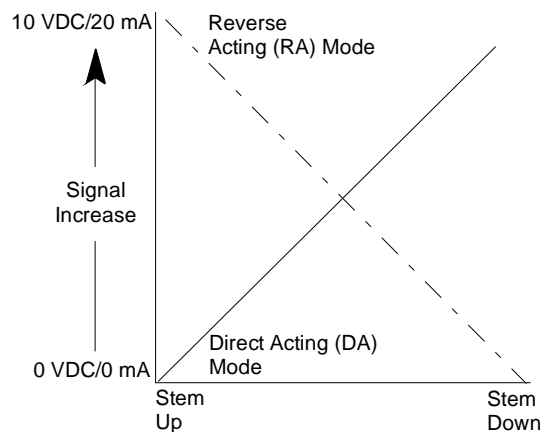

Figure 2: Direct/Reverse Action
In Reverse Acting (RA) mode, a decreasing signal will cause the actuator coupler to extend, pushing the valve stem down. An increasing signal will cause the actuator coupler to retract, pulling the valve stem up (See Figure 2).